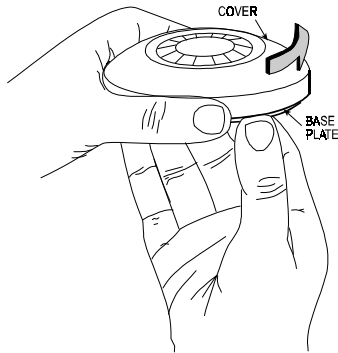

Figure 2. Separating the Cover from the Base
- A. Hold the base with one hand as shown in Fig. 2. Twist the cover counter-clockwise with the other hand until it stops. Separate the cover from the base, and put it in a safe place, to avoid accidental damage.